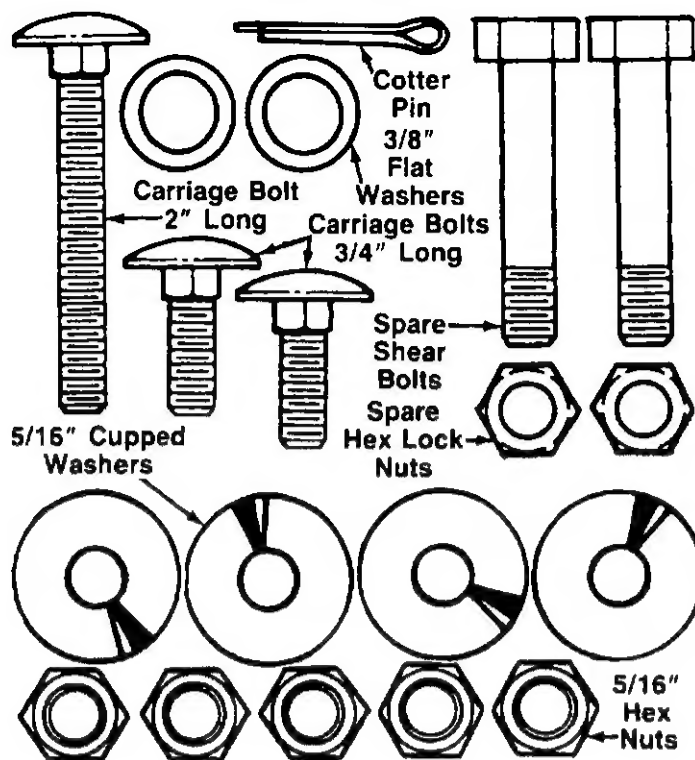

FIGURE 1.
4. **Hardware Pack** (plastic bag) which contains the hardware shown in figure 1 (shown actual size), plus one chute crank bracket which is not shown.